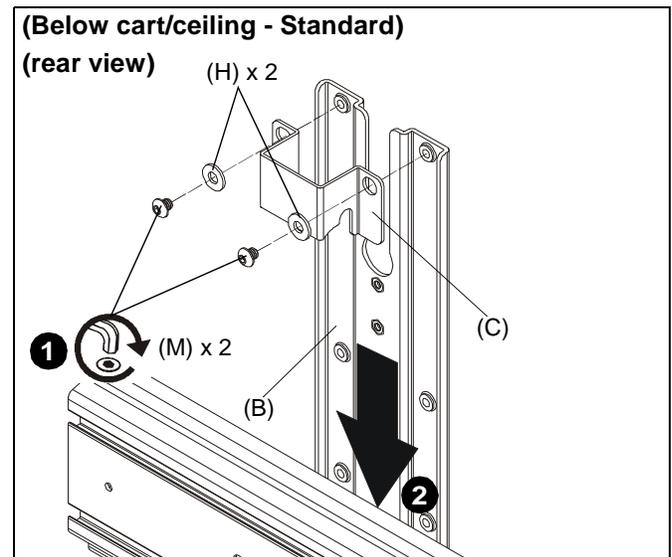

**Figure 6**
- (For **minimum/intermediate extension**) Use two #10-24 lock nuts (G) to secure upright bracket (A) to main bracket (B) and adapter plate (E). (See Figure 6)
- (For **minimum/intermediate extension**) Use 1/4-20 x 5/8" hex head flange bolt (N) and center washer (F) to secure upright bracket (A) to main bracket (B). (See Figure 6)